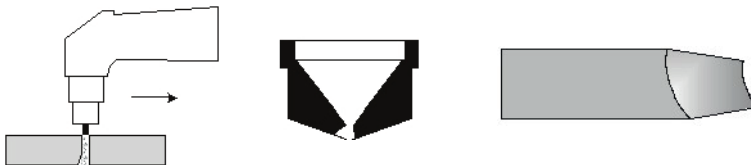

Figure 7: Problems occurring during cutting.
Incorrect penetration of plasma arc: The cutting quality is low due to too high speed. Make sure that plasma arc angle does not exceed 15 ° (see Figure 7):
- nozzle (see figure 7) or electrode worn out.
Edges of the cut are not perpendicular (see Figure 7):